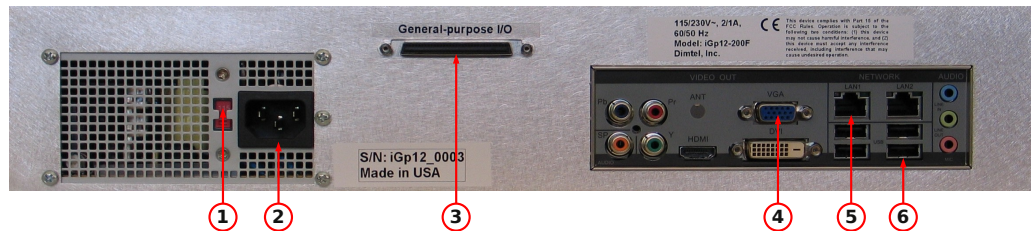

Figure 3: Rear panel features
WARNING: Before connecting power to the unit make sure the voltage selection switch (Fig. 3, item 1) is in the correct position (115 or 230 V).
1. Configure voltage selection switch (Fig. 3, item 1). Mains supply requirements for the iGp12-192F are listed in Table 10;
7. Connect a USB keyboard (Fig. 3, item 4);
8. Connect a video monitor (Fig. 3, item 5);
Setup program is included in the **IOC** for configuring the important features of the iGp12-192F. The program can be executed locally or remotely. For local execution one must first connect a keyboard (Fig. 3, item 4) and a video monitor (Fig. 3, item 5) to the system. For remote setup, use **ssh** after system bootup to establish connection. In both setup methods the user must login as **root** (initial password is supplied with the system). If the newly received iGp12-192F must be configured remotely (when, for example, a keyboard or a monitor is not available), such configuration can be performed using a dedicated network. Set up a network consisting of the iGp12-192F, a network hub or a switch, and a remote computer. The iGp12-192F is delivered with the following network configuration:
- Make sure no cable is connected to the general-purpose digital **I/O** port (Fig. 3, item 3);